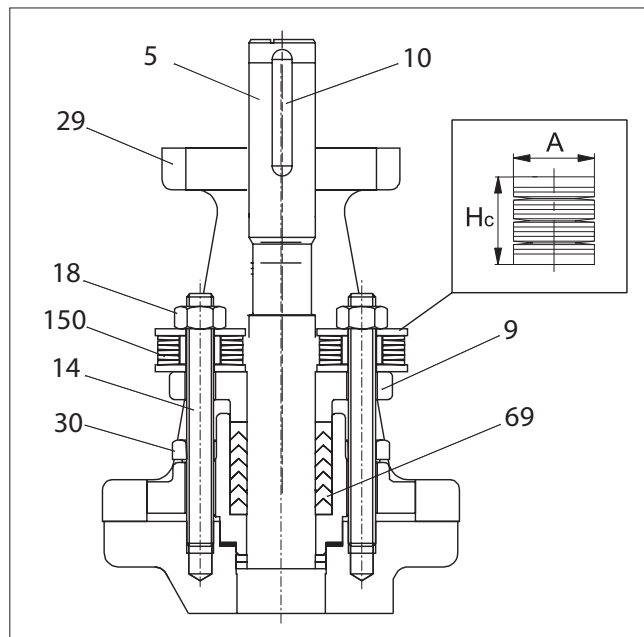

Fig. 16 Spring-loaded packing
- Unfasten the screws (30) and detach the bracket (29).
- Unfasten the nuts (18), remove the disc springs (150) and lift the gland follower (9) from the stem. The studs (14) need not be detached.
- Remove the packing rings (69) from around the stem using a pointed instrument or a detaching tool. Do not damage the surfaces of the stem and the packing ring counterbore.
- Place the new packing rings (69) over the stem. Do not damage the sealing lips of the V-rings in the stem splines. Use the gland follower (9) as a tool for pushing the packing rings all the way in.
- Deform the packing rings first by tightening the gland nuts (18) without disc springs to the torque T_t , see the value from Table 2.
- Remove the gland nuts and place the disc spring sets (150) on the gland studs. Tighten the nuts (18) so that the disc springs are compressed to the height H_c , see Table 2. Lock the nuts with locking compound e.g. Loctite 221. See Fig. 16
- Put the bracket (29) back, lubricate the screws (30) and tighten them. See Table 1.
- Insert the key (10) in the drive shaft (5) keyway.